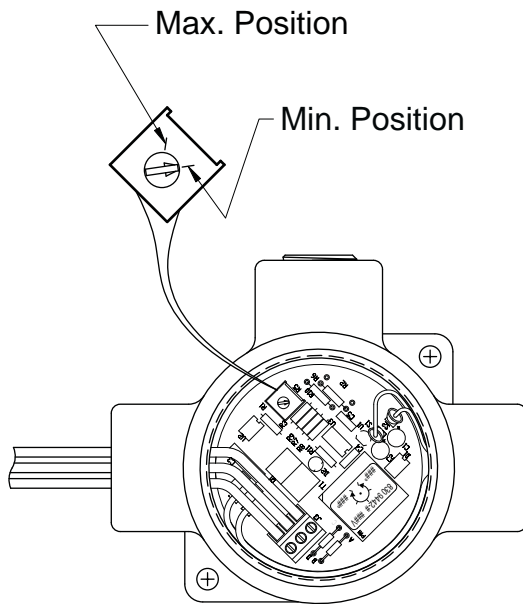

Figure 4 - Thermostat Location
3. Using a small screwdriver, adjust the thermostat. Refer to Figure 4 for thermostat location. Note that fully Counterclockwise (CCW) is the lowest setting in the range. Fully Clockwise (CW) is the highest temperature in the range.